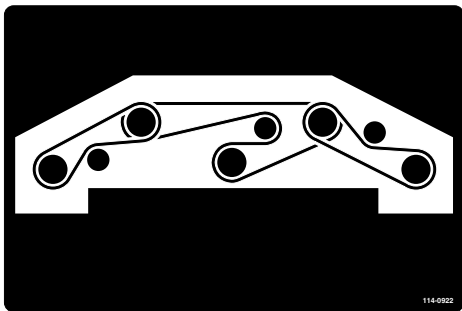

Figure 123
8. Route the new belt around the spindle pulleys and idler-pulley assembly (Figure 123).